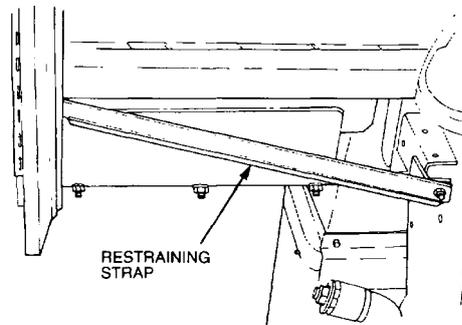

Figure 317 Removing the Body Restraining Strap
- gg. Remove the bolts securing the rear body restraining stays (Figure 317) to the chassis.
- g.** Install the rear body retaining stays (Figure 317) and tighten the nuts, washers and bolts securely.